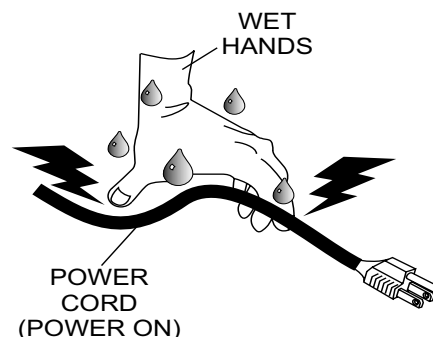

**Figure 9. Submersible Pump Upright Position (Incorrect)**
2. Make sure the pump is always placed in an upright position, not tilted (Figure 9). Never position the pump directly on a soft, loose bottom. Remember to attain maximum pumping capacity and prevent excessive wear, position the pump so it will not burrow itself into sand or clay.